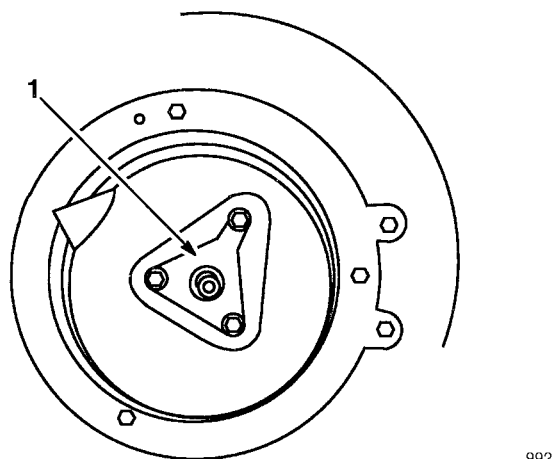

Figure 39
11. Install muffler and crankshaft support to engine mounting plate (Fig. 39).